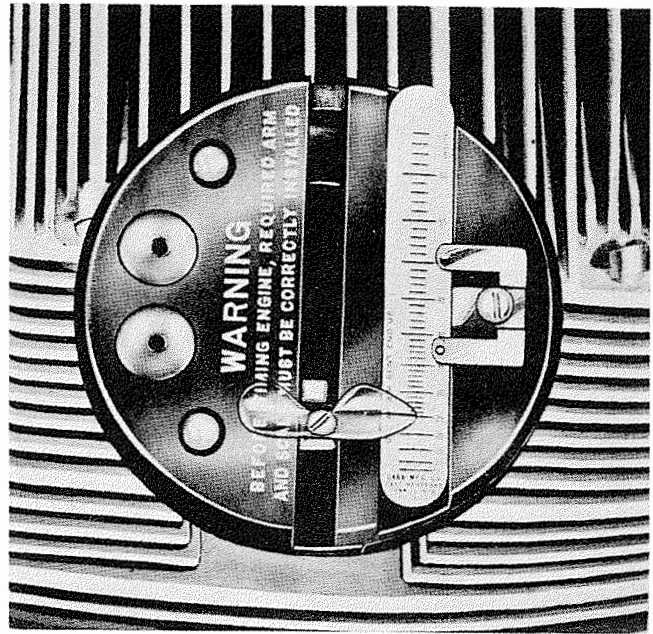

Figure 7-101. Piston Position Indicator with Piston at Timing Position
b. Turn the crankshaft until the piston in cylinder No. 1 is again coming up on the compression stroke. Adjust the pointer so that it is aligned at the desired number of degrees on the scale. Turn the propeller shaft slowly in the direction of rotation until the pivot arm just contacts the pointer. This will cause the light to go on, indicating that the piston is at the exact position desired. See figure 7-101.